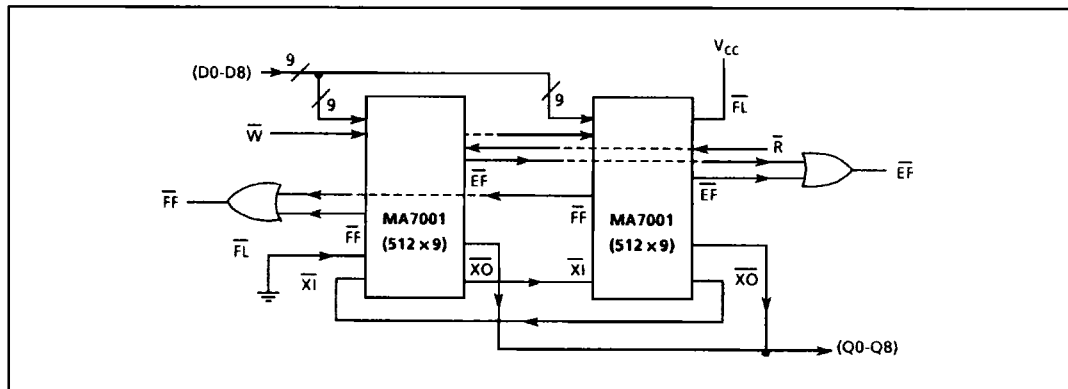

Figure 12: Depth Expansion Mode (1024 x 9 bits)
2. \bar{XI} is connected to \bar{XO} of previous device (Figure 12).
Figure 12 illustrates depth expansion of 2 devices (1024 x 9).